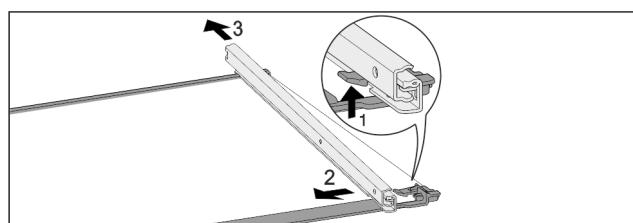

Fig. 104 Glass shelf with rails
- Push up front click-in hooks. Fig. 104 (1)
- Move the pull-out rails to the side Fig. 104 (2) and to the rear Fig. 104 (3).